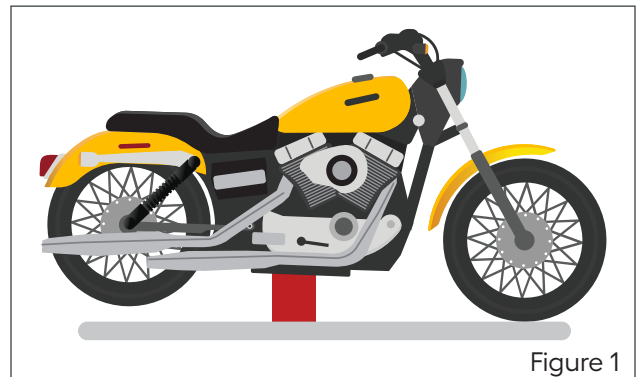

Figure 1
- Securely place the motorcycle on a stand with the rear wheel elevated (Figure 1).